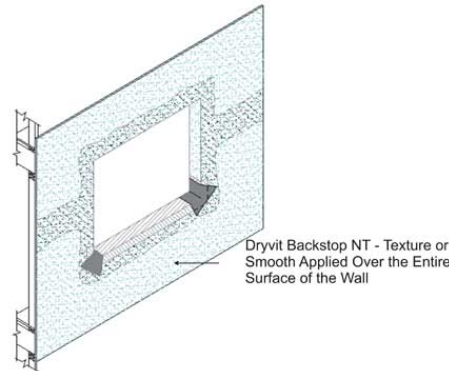

Figure 11
- 4) Install the specified component (i.e. window, etc.) and associated flashings per manufacturer’s directions and contract documents. Then apply Backstop NT – Texture or Smooth to the remainder of the wall surface as described in Section VI and lap over the previously installed material (do not lap over Flashing Tape if specified) around openings – Figure 11.